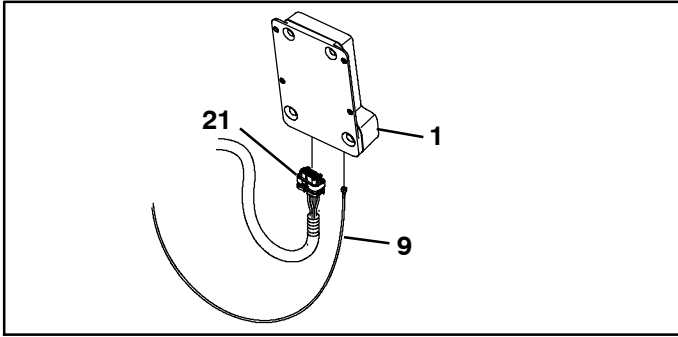

FIG. 8
8. Connect the antenna (9) cable and the telemetry harness (21) to the telemetry control box (1). (FIG. 8)